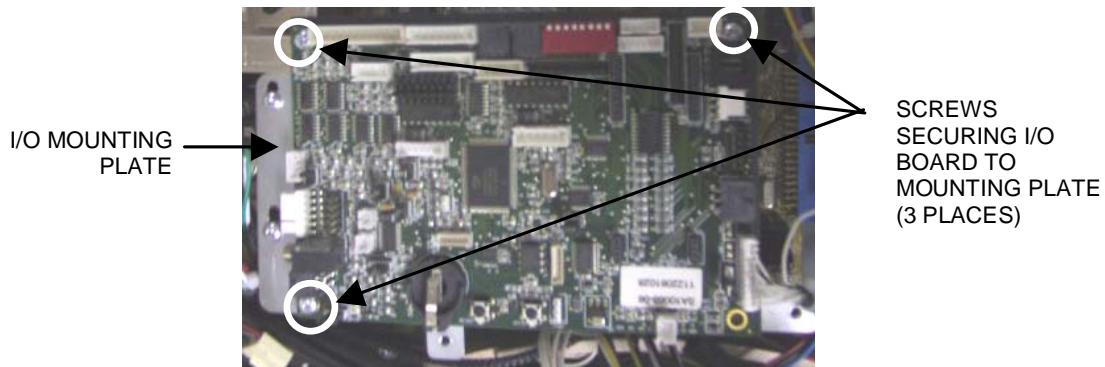

FIGURE 4 - I/O BOARD AND MOUNTING PLATE
3. Remove the 3 screws securing the I/O board to the I/O mounting plate. Remove all connections from the I/O board, taking note of their positions so you can reconnect them later. See Figure 4.